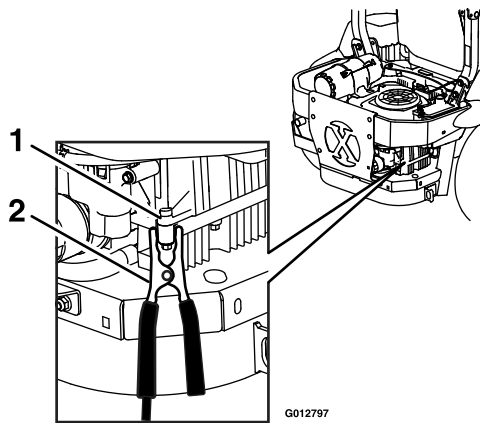

Figure 20
6. **MAKE THE FINAL CONNECTION ON THE ENGINE BLOCK OF THE STALLED VEHICLE (NOT TO THE NEGATIVE POST) AWAY FROM THE BATTERY. STAND BACK (see Figure 20).**